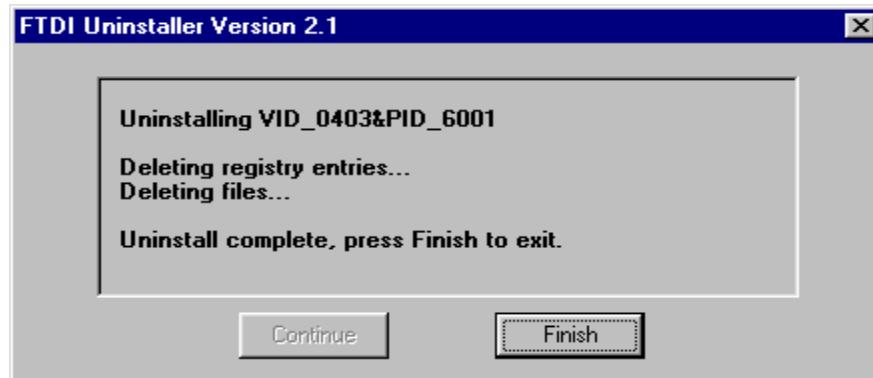

Figure 30
7. Select **Finish** (Figure 30).